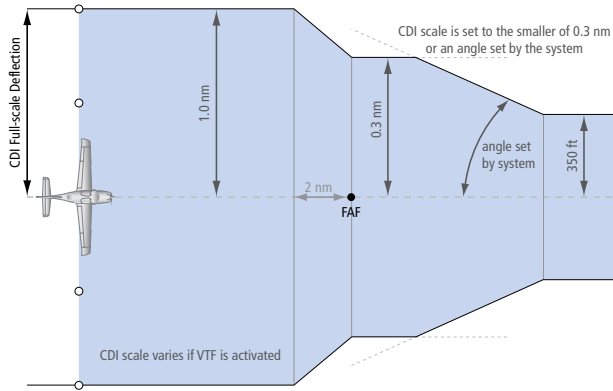
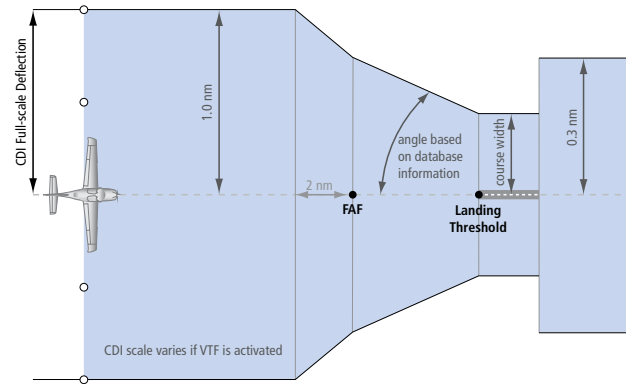

Figure 2-24 Typical LNAV and LNAV+V Approach Service Level CDI Scaling
Figure 2-25 Typical LNAV/VNAV, LPV, LP, and LP+V Approach Service Level CDI Scaling
- During **approach**, the CDI scale ramps down even further (see Figure 2-24 and Figure 2-25). This transition normally occurs within 2.0 nm of the Final Approach Fix (FAF). The CDI switches to approach scaling automatically once the approach procedure is active or if Vectors-To-Final (VTF) are selected.